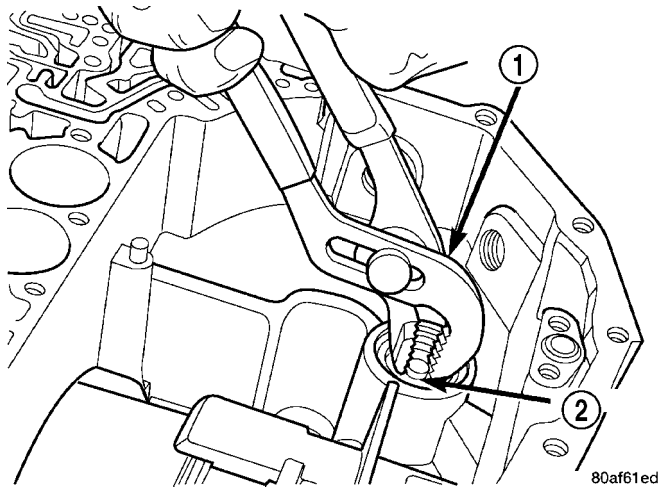

Fig. 150 Install Low/Reverse Accumulator Plug
(60) Install low/reverse accumulator plug (Fig. 150).